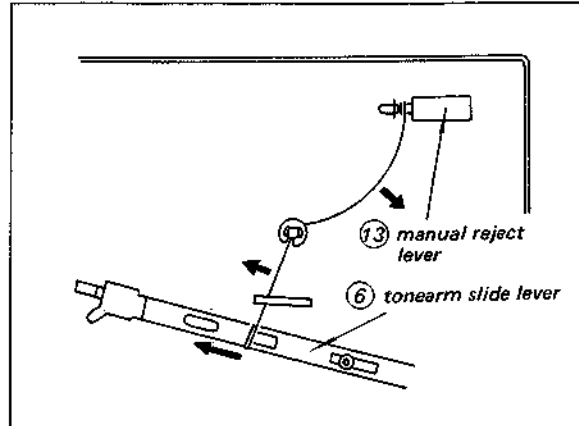

Fig. 1-9. Reject lever movement
Referring to Fig. 1-9, the reject lever (8) pushes the tonearm slide lever (6) towards the turntable center. This triggers the automatic return mechanism as previously described.